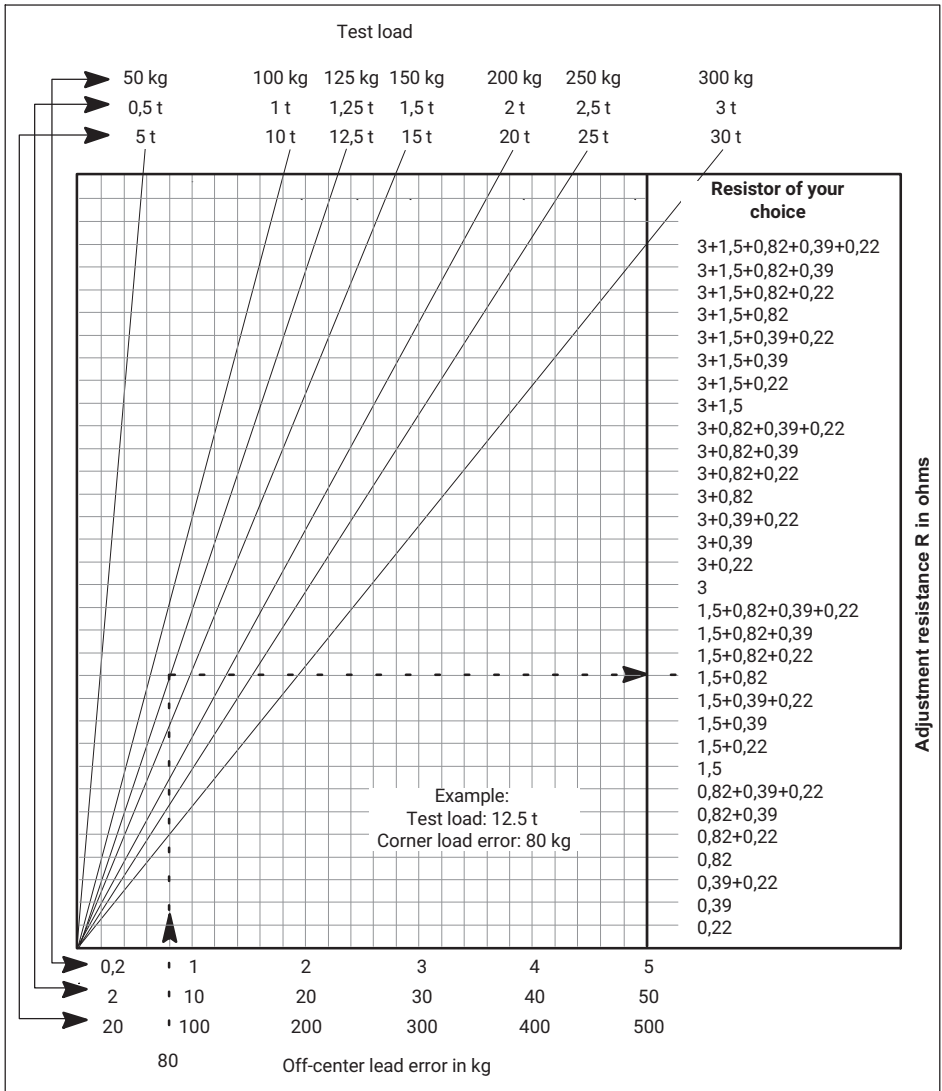

Fig. 10.2 Off-center load compensation for for 350 Ω load cells (for 700 Ω load cells, the established value must be doubled)
- The diagram (*Fig. 10.2*) is graduated in 7 test load ranges. Select the test loads used (12.5 t in the example) in the relevant line. Starting from the calculated off-center load error difference on the X-axis, look for the intersection with the test load and then, on the Y-axis, read off the resistance and the most suitable combination. The resistance values here apply for 350 Ω load cells (see the table in the lid of the VKK...).
In our example, load cell 3 has a corner load error of 80 kg, which produces an adjustment resistance of $1.5 + 0.82 \Omega$ (shown in *Fig. 10.2*).
Fig. 10.3 Alternative method for procedure as in Fig. 10.2 (the dividing points are shown), see table in lid; (For 700 Ω load cells, the established value must be doubled.)